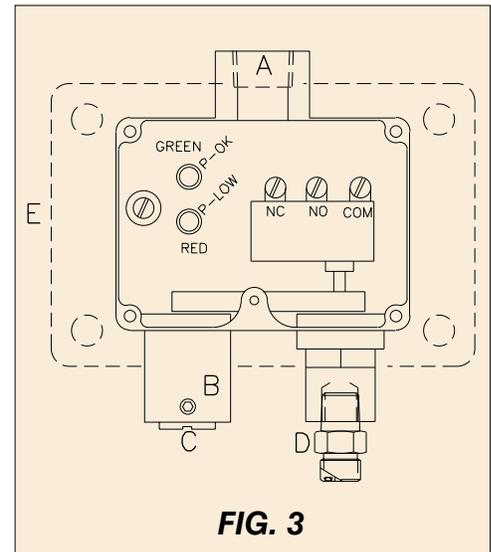

FIG. 3
3. Supply 24 VDC power through Port A (Fig. 3).
1. Link the 90.421.2 with the system or known pressure source through the 1/4 NPT Port D (Fig. 3).
3. Loosen Set Screw B (Fig. 3) so that Adjust Screw C can be freely operated.